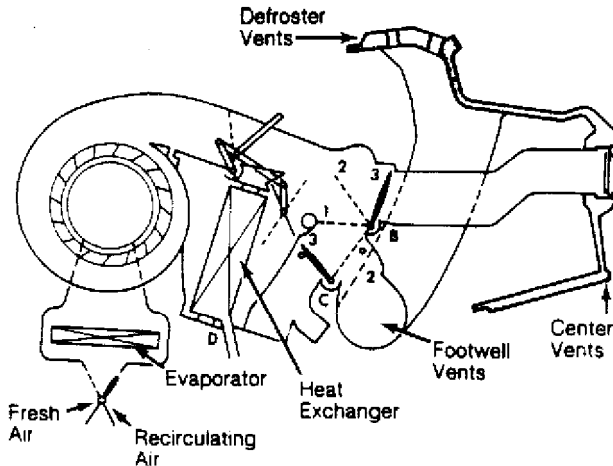

Fig. 11: Air Distribution for Heater System
5) Check voltage between control head terminal B and ground. If more than 5 volts, replace control head. If less than 5 volts, check for circuit in wire between control head terminal B and programmer terminal U. If okay, replace programmer. If not okay, repair wire. See Fig. 11.